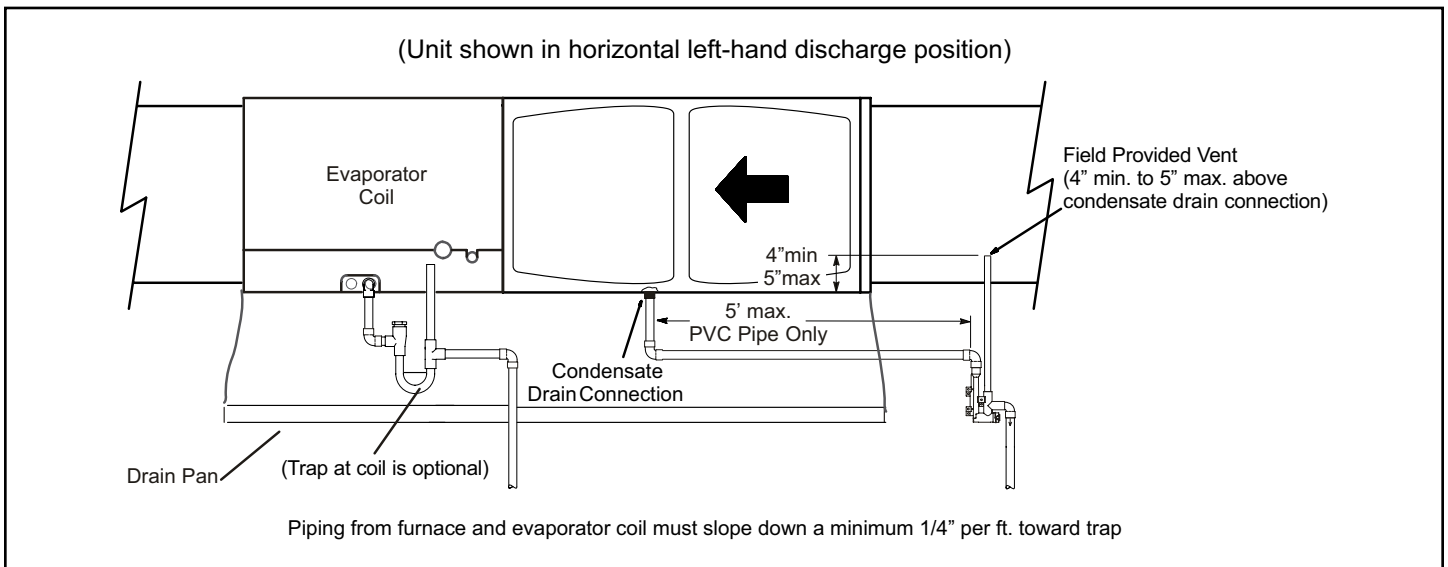
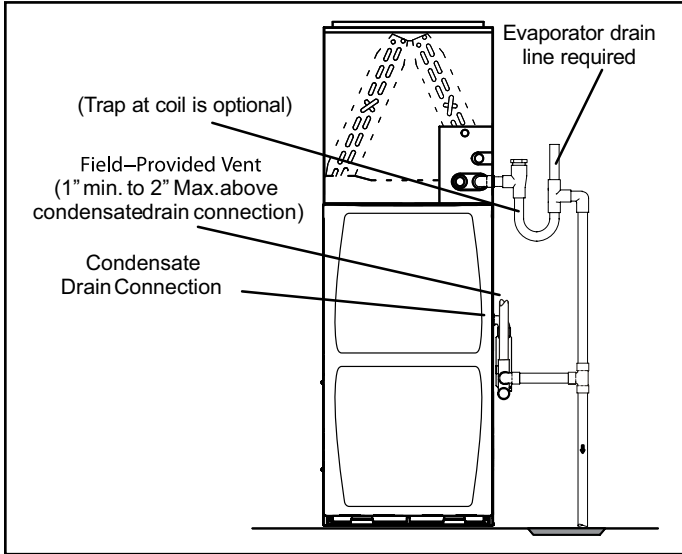
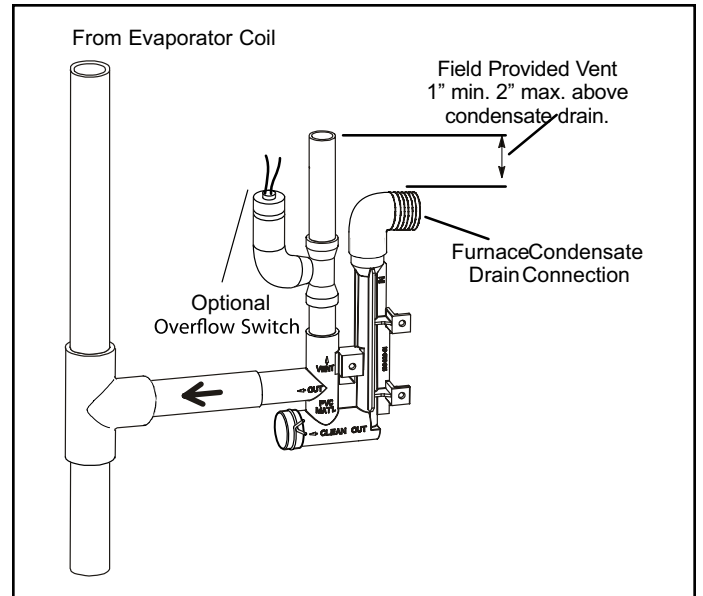
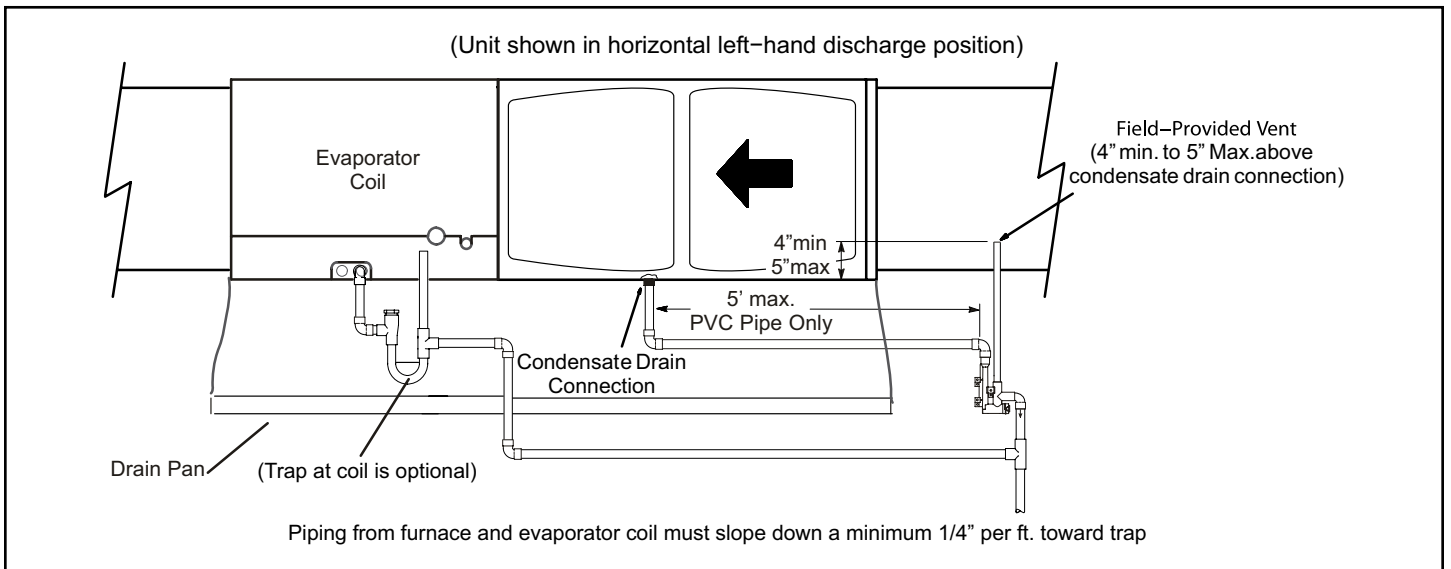

Figure 47. Furnace with Evaporator Coil Using a Separate Drain
Figure 48. Furnace with Evaporator Coil Using a Common Drain
Figure 49. Condensate Trap With Optional Overflow Switch
Figure 50. Furnace with Evaporator Coil Using a Common Drain
5. Figure 49 and Figure 47 show the furnace and evaporator coil using a separate drain. If necessary the condensate line from the furnace and evaporator coil can drain together. See Figure 48 through Figure 50.
Upflow furnace (Figure 48) - In upflow furnace applications the field provided vent must be a minimum 1" to a maximum 2" length above the condensate drain outlet connection. Any length above 2" may result in a flooded heat exchanger if the combined primary drain line were to become restricted.
Horizontal furnace (Figure 50) - In horizontal furnace applications the field provided vent must be a minimum 4" to a maximum 5" length above the condensate drain outlet connection. Any length above 5" may result in a flooded heat exchanger if the combined primary drain line were to become restricted.